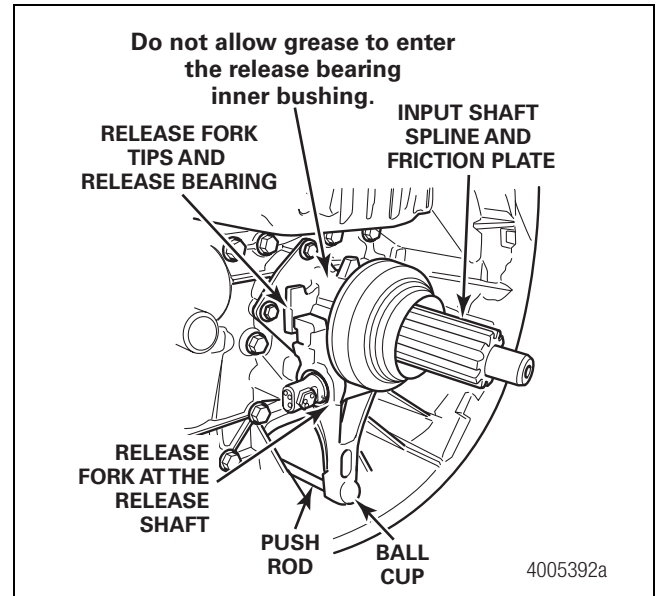

Figure 12.8
- The release fork tips and release bearing, where the fork tips contact the bearing. Figure 12.8.